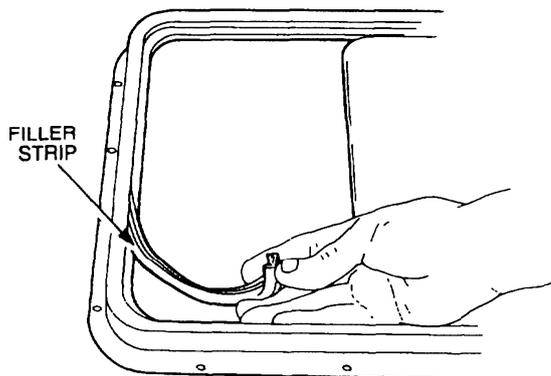

Figure 225 Forward Filler Strip Removal
- d. Remove the rubber filler strip from the inside groove at the front of the window frame (Figure 225).
- aa. Fit the filler strip to the outer channel at the sliding glass end of the frame (Figure 225).